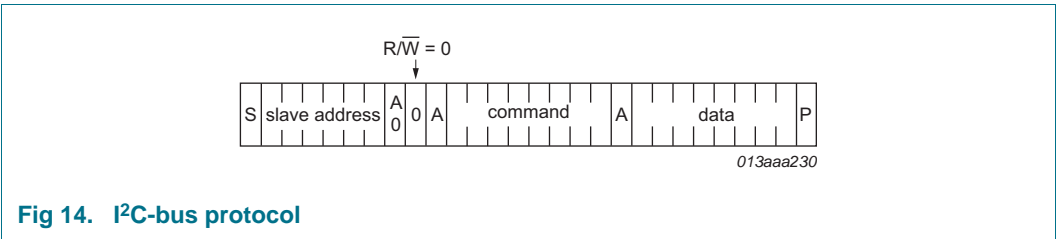

Fig 14. I2C-bus protocol
The I2C-bus protocol is shown in Figure 14. The sequence is initiated with a START condition (S) from the I2C-bus master which is followed by the slave address.